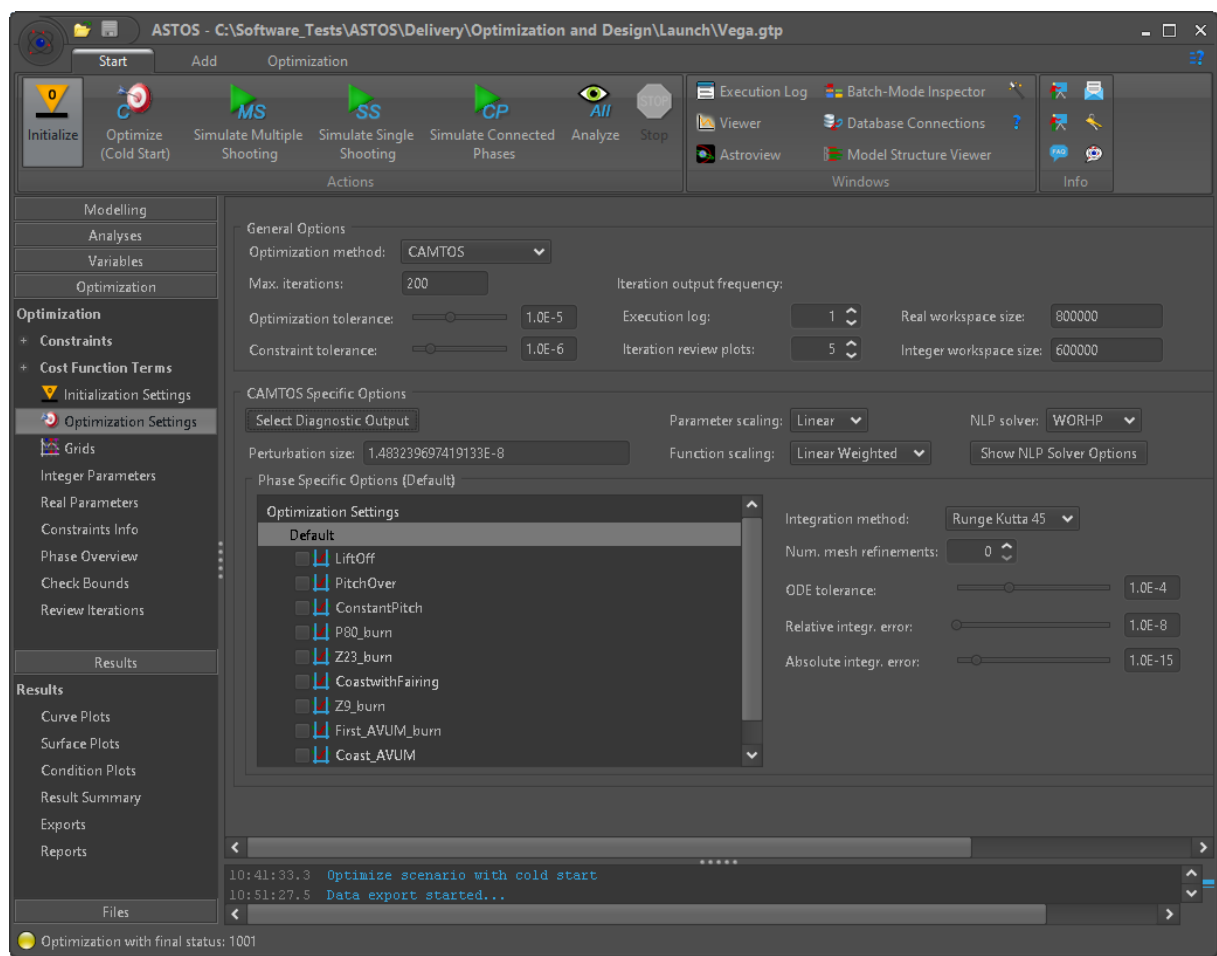

Fig. 4.1: Optimization Settings for the VEGA scenario
- Verify that all other values are as depicted in Fig. 4.1.